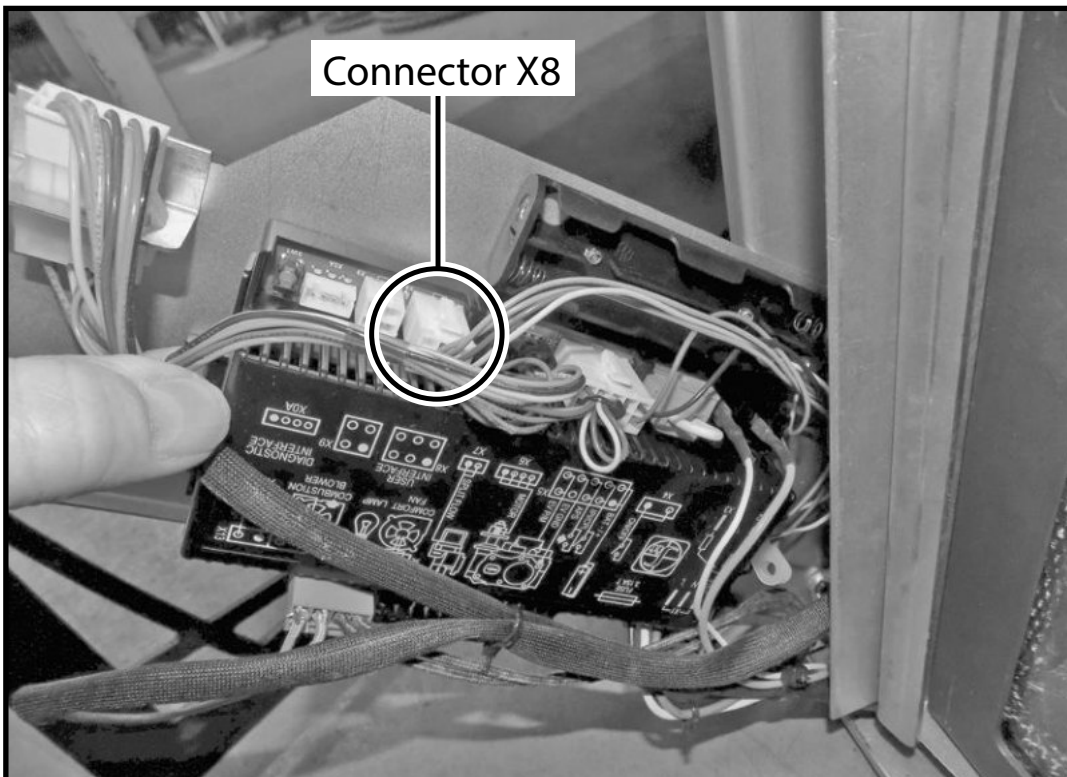

Figure 81: SIT manual switch connection at SIT module.
1. Check that the ON/OFF Switch cable is plugged into the SIT module (jack X8) as shown in Figure 81.